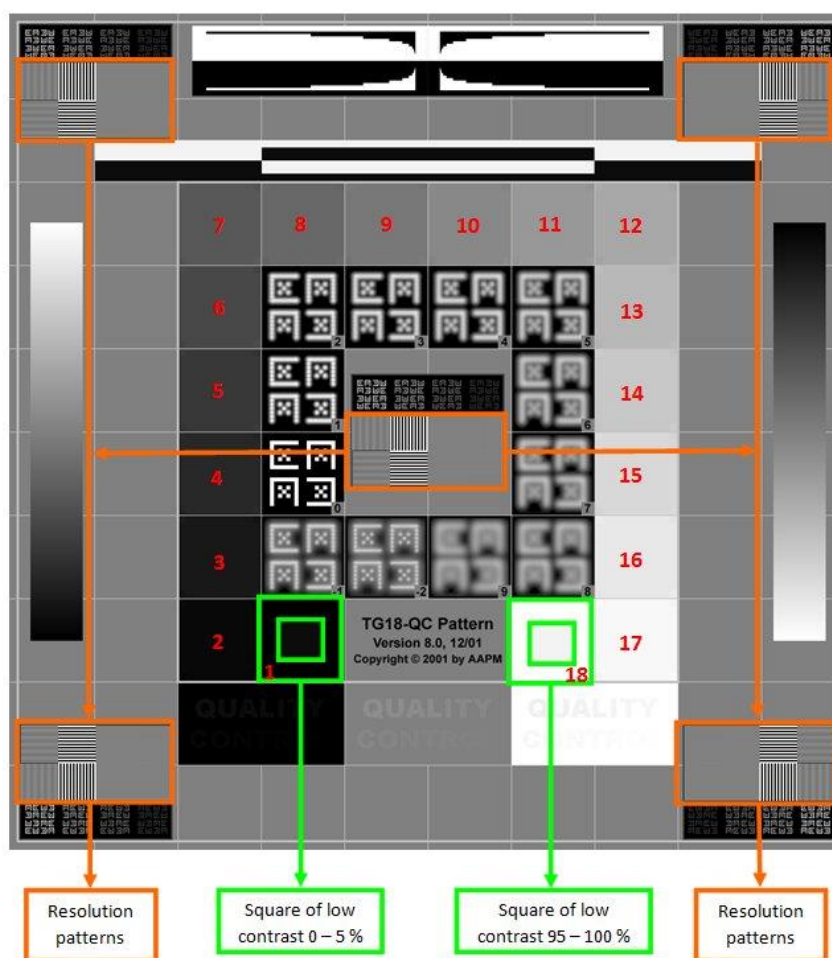

Figure 2d – AAPM TG18-QC test pattern
- The pattern is displayed on the screen as if it were a mammogram (Figure 2d).